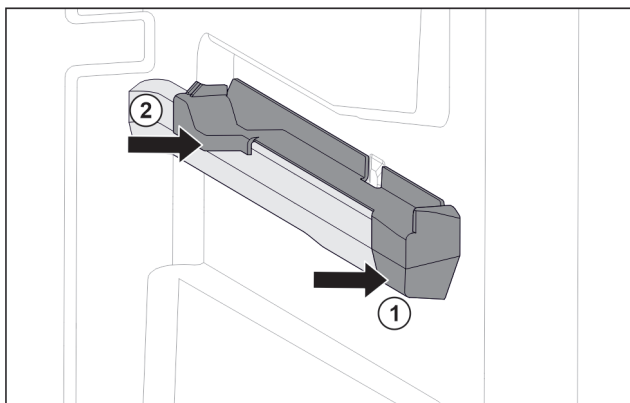

Fig. 151 Attachment on the right moulded rib
- Position attachment on moulded rib at the front. Fig. 151 (1)
- Press on attachment at the back. Fig. 151 (2)